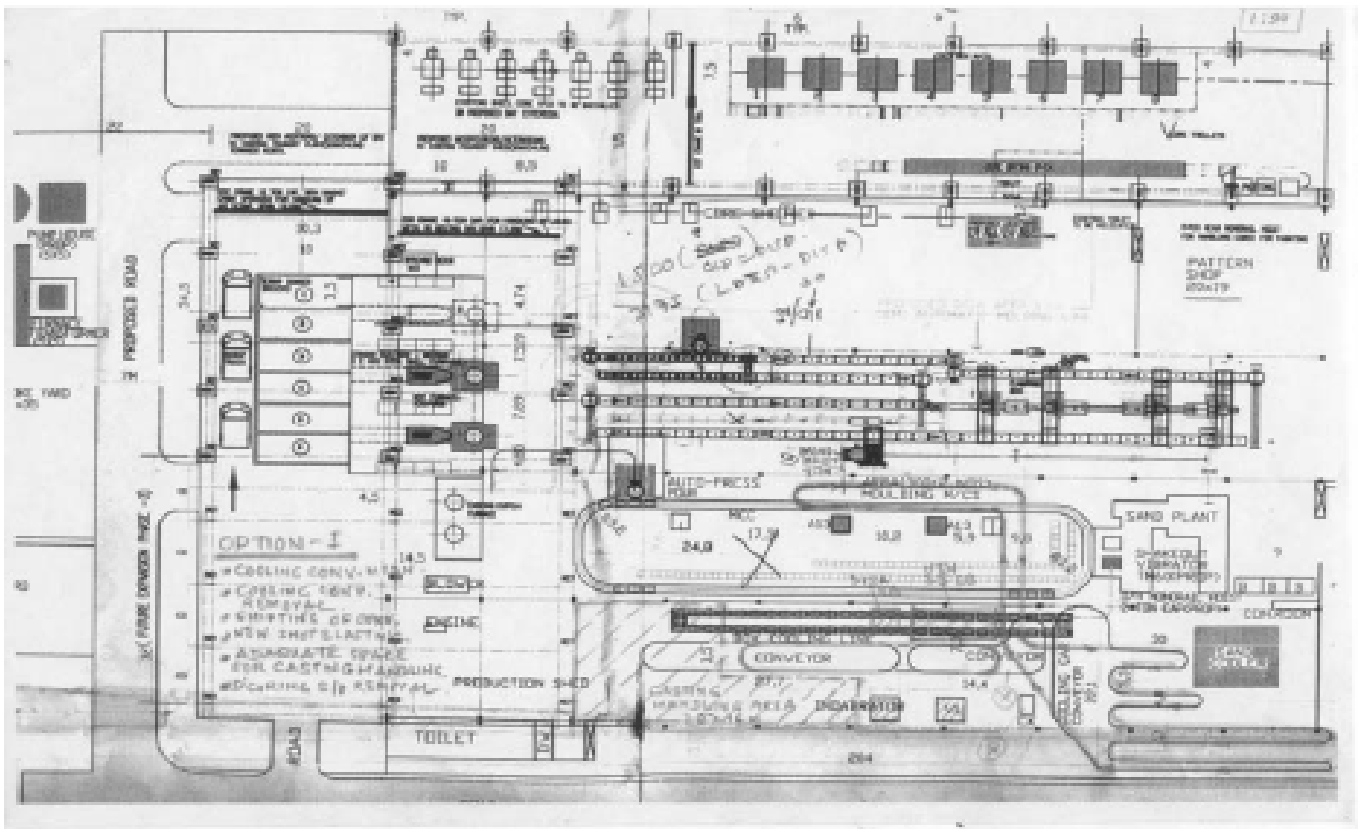

Fig. 29
2.9.2 Shakeout, Casting Cooling Conveyor, Decoring, Shot-blast, Inspection, Definning, Despatch to fettler in truck in the same shed. This is best the layout (Fig.29).
(PTO for Figure 29)